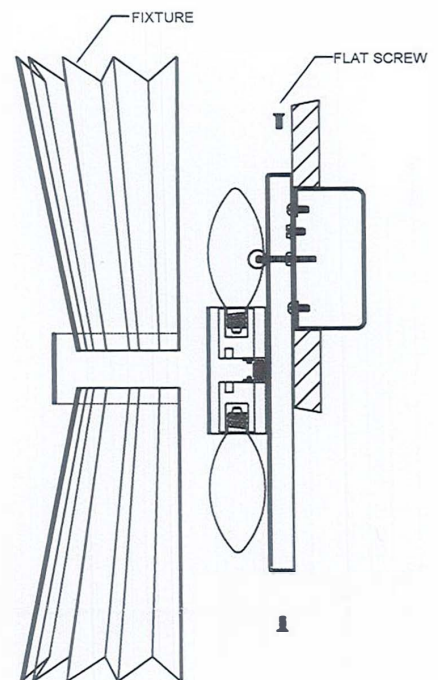

FIGURE-03
7. Attach the fixture on the backplate fasten it with flat head screw.(See Figure-03)